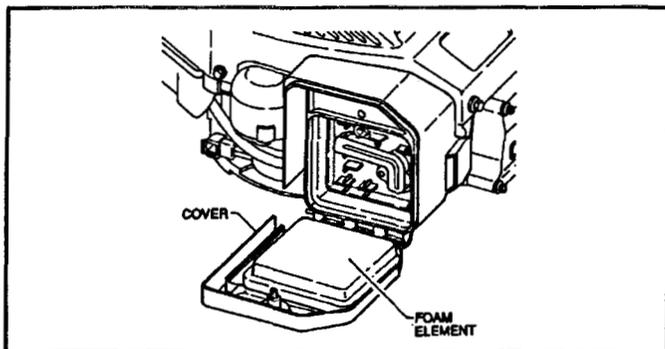

Figure 36
1. Loosen (counterclockwise rotation) the thumb screw retaining the air cleaner cover, and remove the cover from the body of the air cleaner. See Figure 36.
2. Remove the foam filter element. See Figure 36.